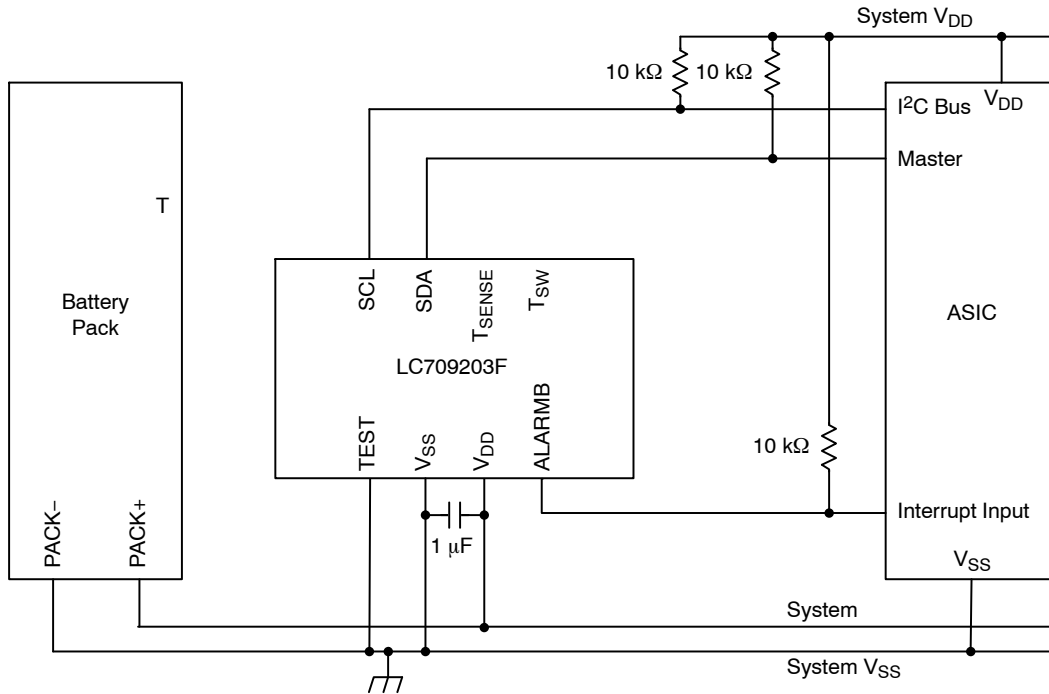

Figure 1. Example of an Application Schematic using LC709203F (Temperature Input via I²C)
1. T_{SW} and T_{SENSE} must be disconnected as Figure 1 when not in use.